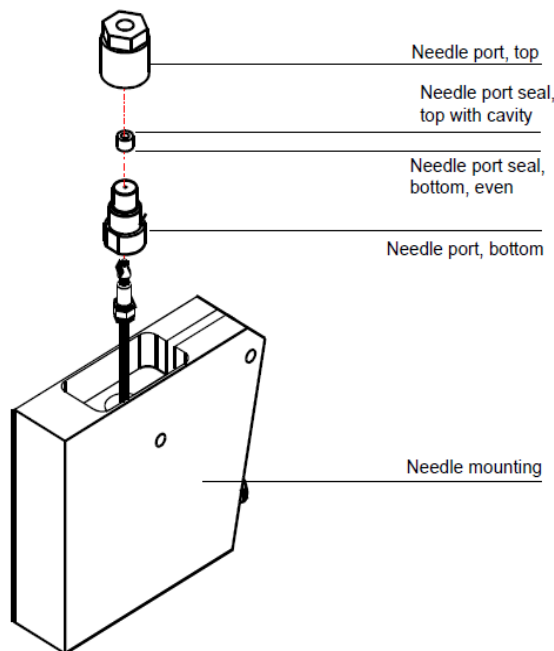

Figure 3. Needle port with needle port seal.
- 8.3.3.3.1. Using a pair of tweezers, insert the needle port seal into the top part of the needle port without tilting the seal. The top of the needle port seal must point to the top of the needle port (See Figure3).